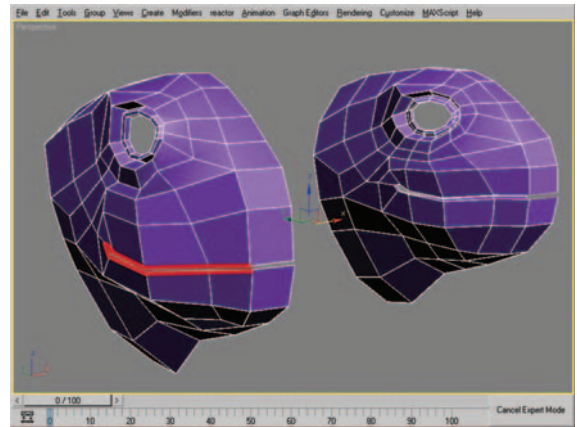

Figure 9.29 Edge selection and resulting mesh after shift-dragging the edges.
29. Select the eight edges shown in Figure 9.29 (left) and shift-drag them slightly to the right, making an additional row of polygons that mirrors the edge we just cloned. With the edges still selected move them back a short distance.